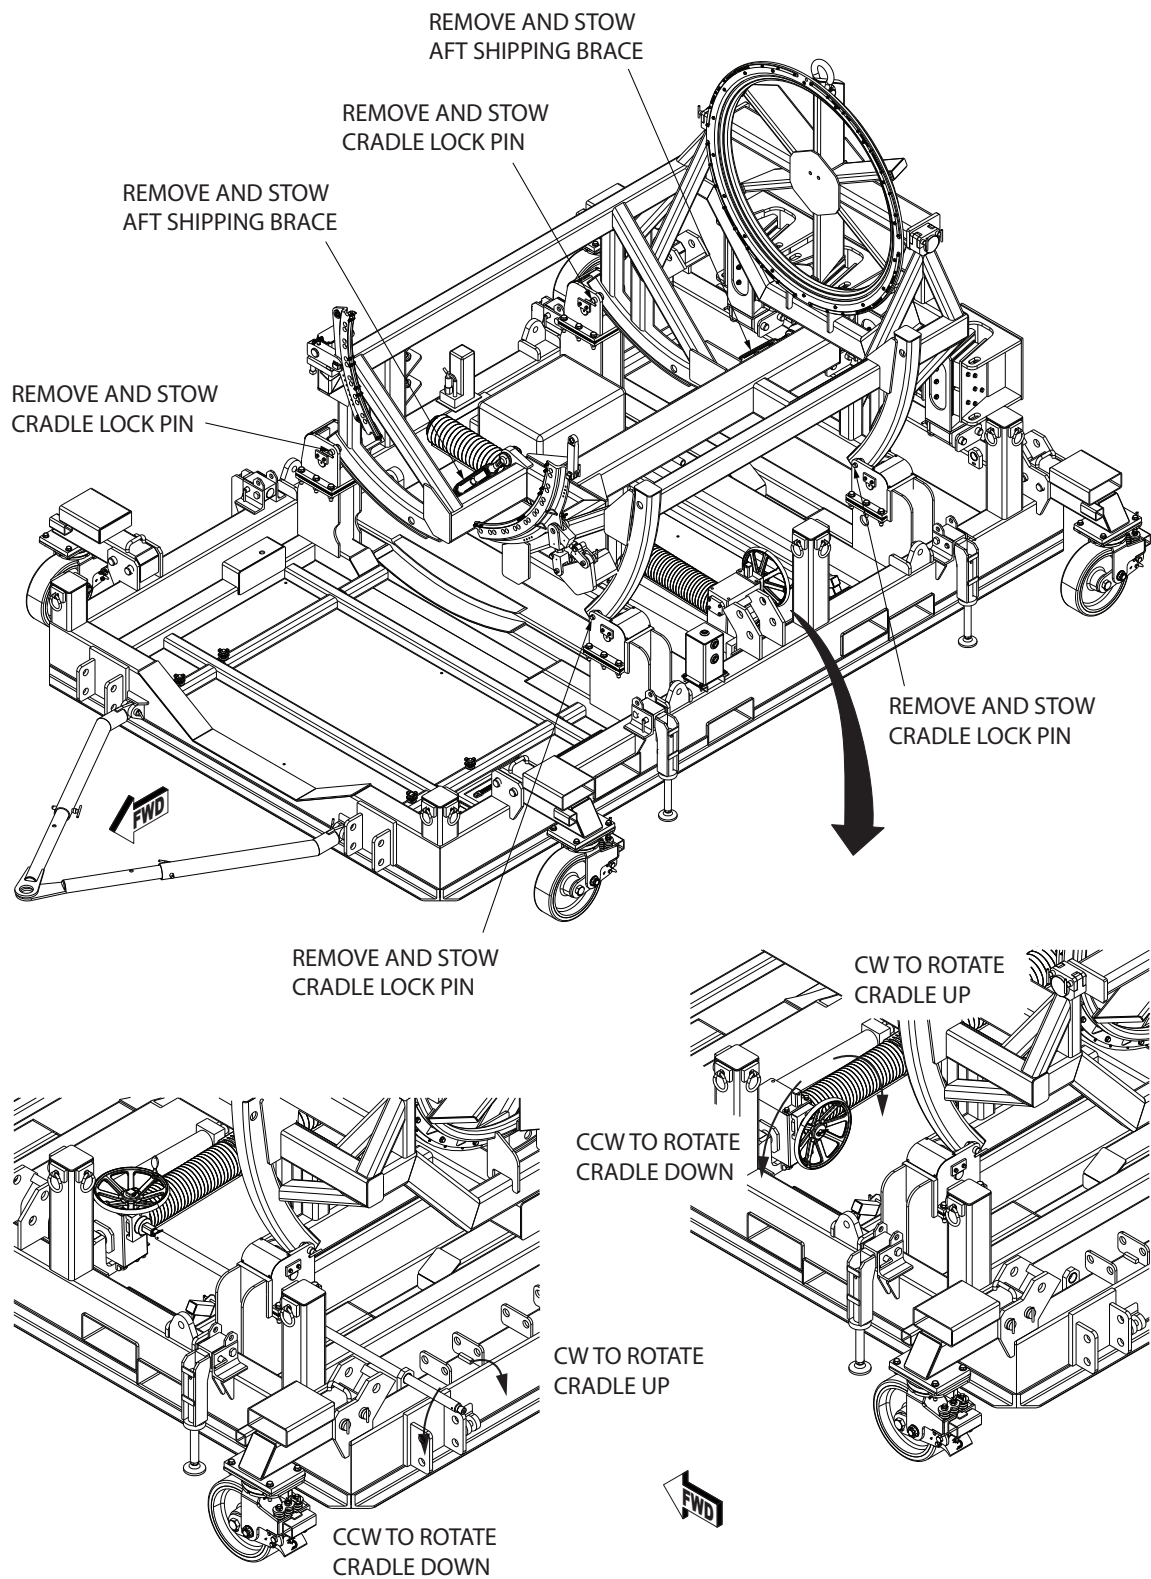

Figure 5.1-1 Rotation of Empty Cradle
- 1) Remove four (4) cradle locking pins. (Figure 5.1-1).
- 2) Loosen and disconnect the FWD and AFT shipping braces. (Figure 5.1-1).
- 3) Turn the hand wheel (or the air ratchet) in the direction indicated by stencils to rotate cradle in direction required (AFT looking FWD): CCW to rotate and lower the cradle CCW and CW to rotate and raise the cradle CW. (Figure 5.1-1).